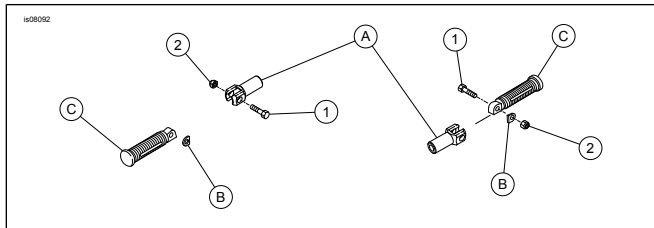

Figure 1. Service Parts
See Figure 1 and Table 1.
2. See Figure 1. Install screw through passenger footrest support, spring washer, and footpeg. Verify that the spring washer is positioned inside the footpeg support with the square edge towards the inside of the support.